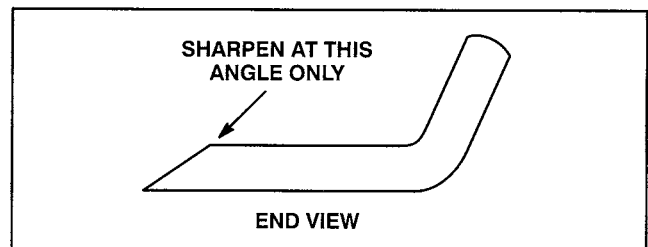

Figure 26
5. Inspect cutting edges of all blades. Sharpen the cutting edges if they are dull or nicked. Sharpen only the top of the cutting edge and maintain the original cutting angle for best performance (Fig. 26). The blade will remain balanced if same amount of metal is removed from both cutting edges.